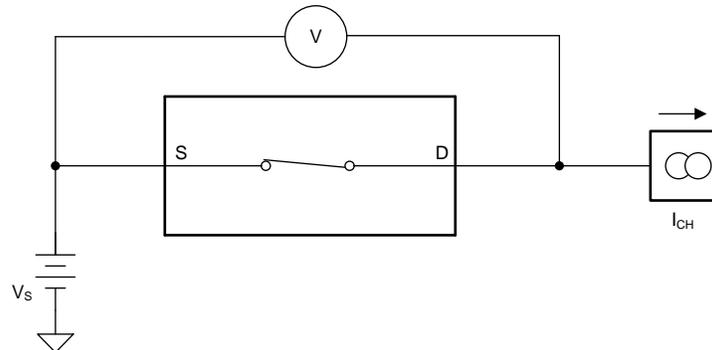

图 17. On-Resistance Measurement Setup
The on-resistance of the TMUX6136 is the ohmic resistance across the source (Sx) and drain (D) pins of the device. The on-resistance varies with input voltage and supply voltage. The symbol R_{ON} is used to denote on-resistance. The measurement setup used to measure R_{ON} is shown in 图 17. Voltage (V) and current (I_{CH}) are measured using this setup, and R_{ON} is computed as shown in 公式 1: